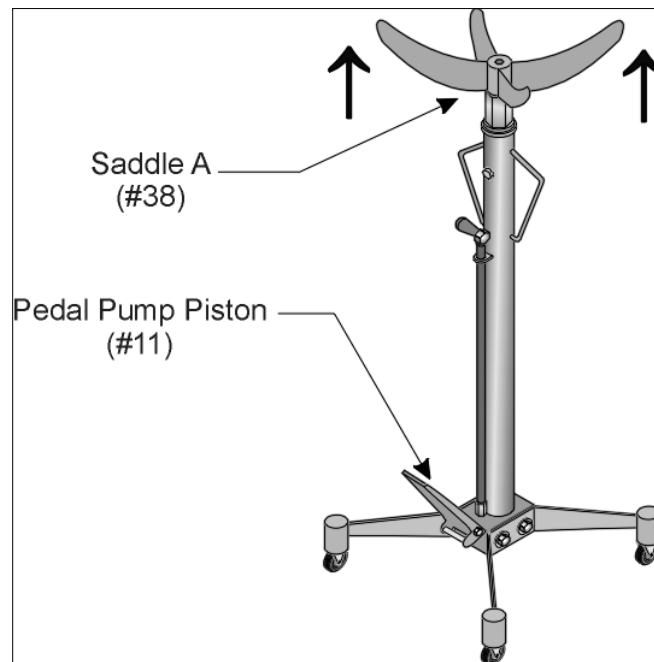

Figure 5--Raising the Saddle
- Step 3: Raise the SADDLE A (#38) up under the differential by stepping on the PEDAL PUMP PISTON (#11) as shown in Figure 5.